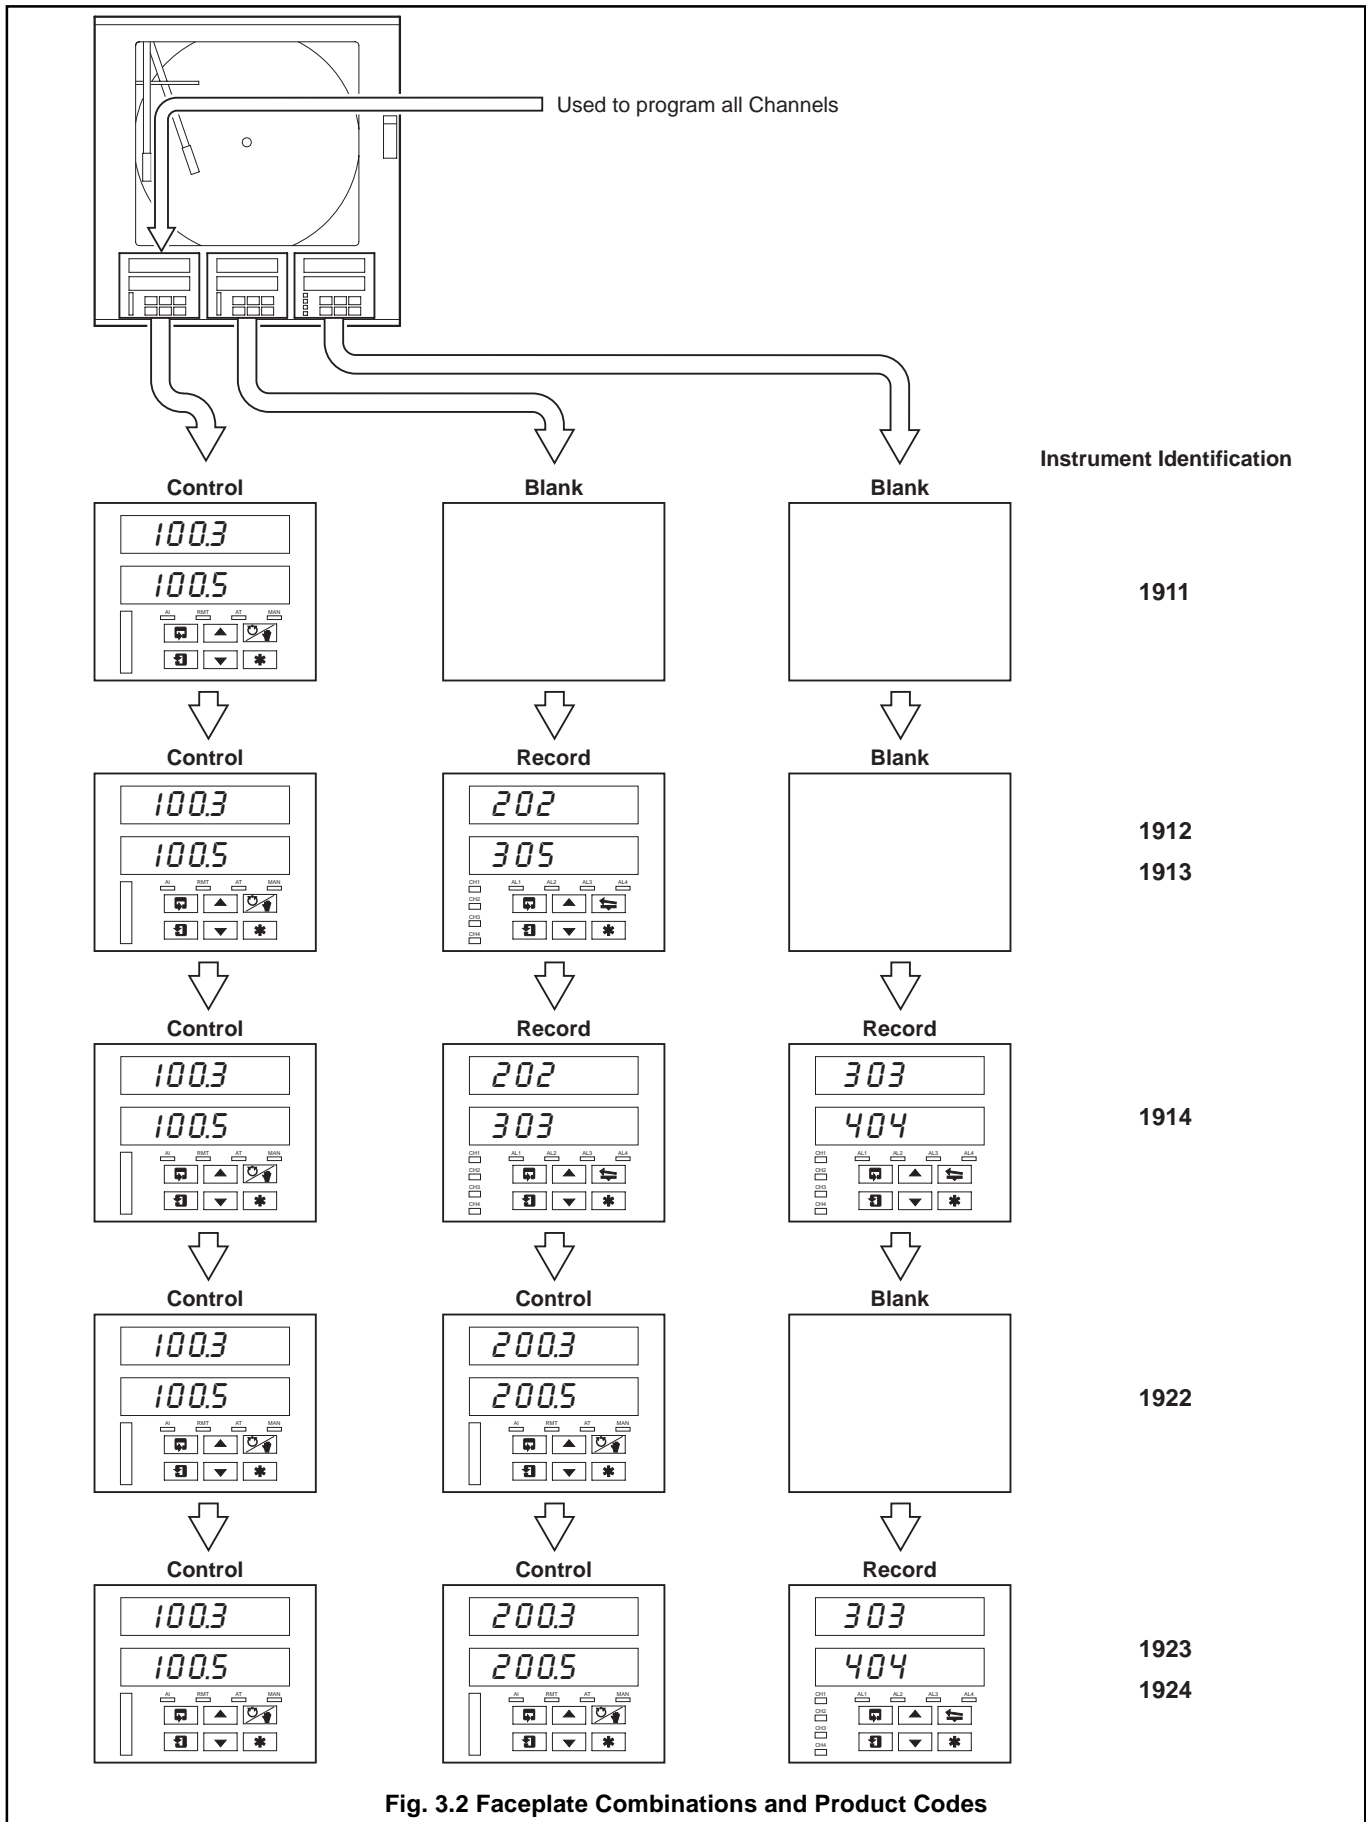

Fig. 3.2 Faceplate Combinations and Product Codes
3.2 Use of Controls – Fig. 3.2(a) to (f)